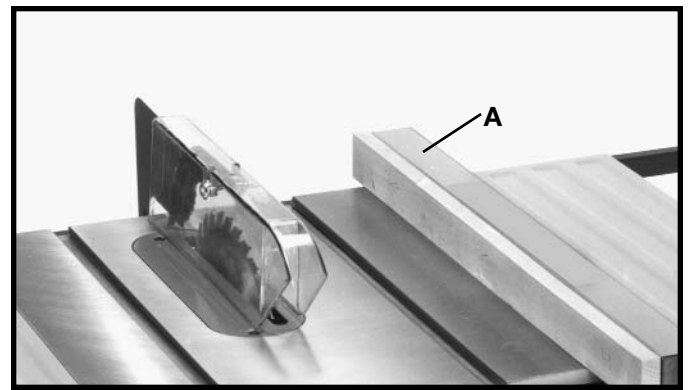

Fig. 60
CAUTION It is necessary when performing special operations such as moulding to add wood facing (A) Fig. 60, to one or both sides of the rip fence, as shown. The wood facing is attached to the fence with wood screws, countersunk and assembled through the holes provided in the fence. 3/4 inch stock is suitable for most work although an occasional job may require 1 inch facing.